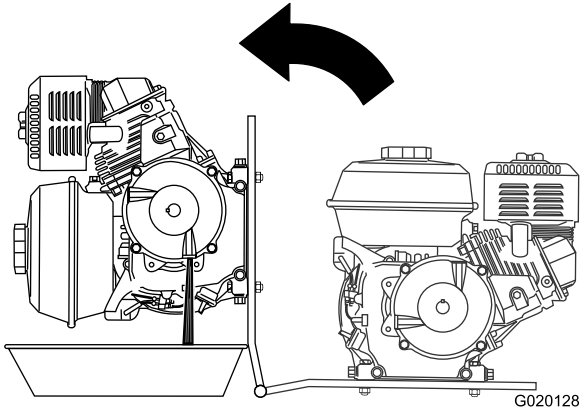

Figure 55
5. Align a drain pan to the hinge of the engine deck (Figure 55).
6. Rotate the engine on the hinge side of the engine deck, and drain the oil from the reduction case (Figure 55).